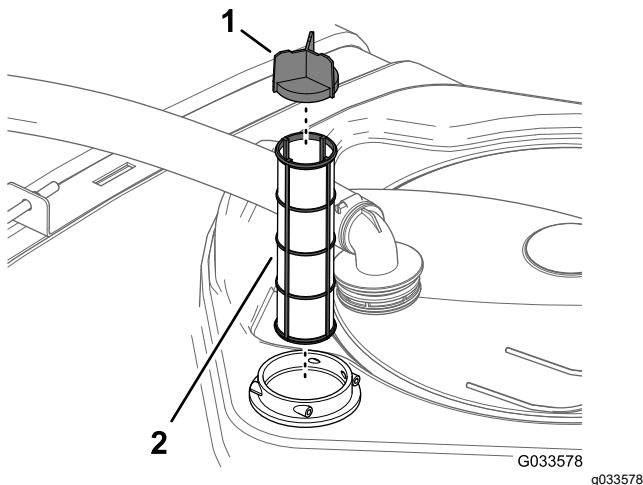

Figure 51
4. Pull the suction strainer out of the filter housing in the tank (Figure 51).